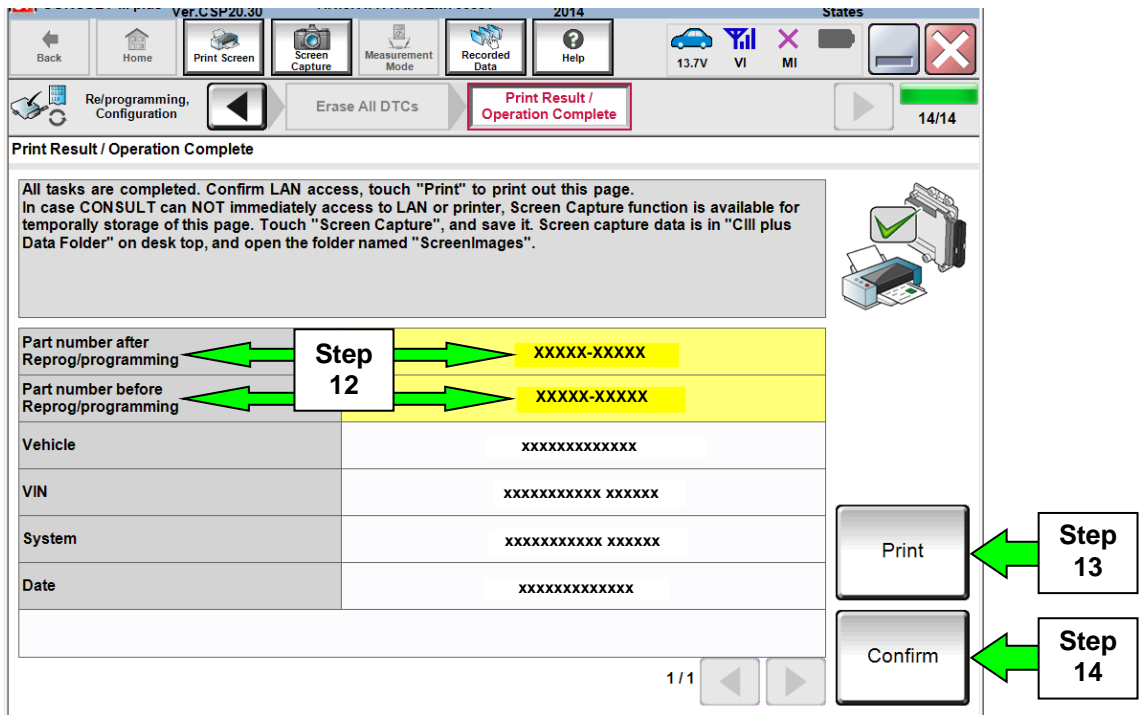

Figure 7
11. When the entire reprogramming process is complete, the screen in Figure 7 will display.
13. Print a copy of this screen (Figure 7) and attach it to the repair order for warranty documentation.